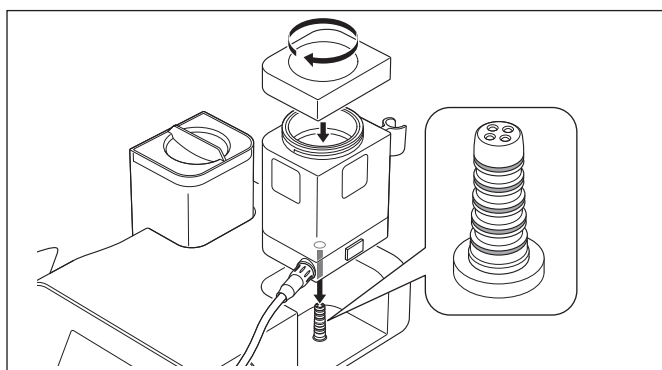
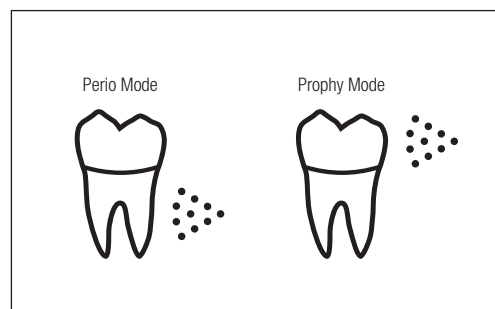

Fig. 24
Fig. 25
- 2) Close the Chamber Cap securely until it fits the Chamber completely and insert the Chamber straight to the Control Unit (Fig. 24). The type of inserted Chamber is displayed on the LCD Panel as one of the following icons (Fig. 25).
- Before inserting the Chamber into Control Unit, make sure the O-Rings of the Chamber Base Connector are not damaged or torn (Fig.24). Damaged or torn O-Rings could lead to poor operation or malfunction.